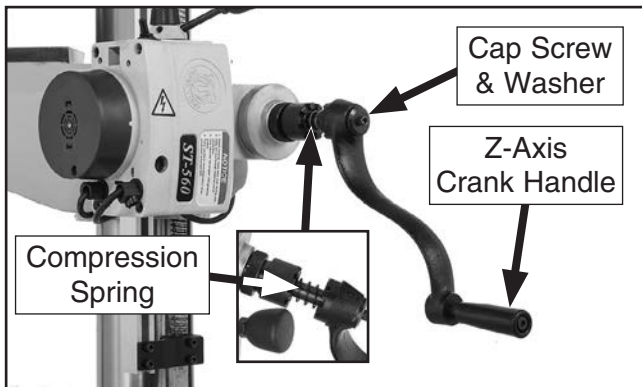

Figure 16. Z-axis crank handle installed correctly.
1. Remove cap screw and washer that secure Z-axis crank handle, then remove crank handle, turn it around, and re-install it with compression spring, as shown in **Figure 16**.